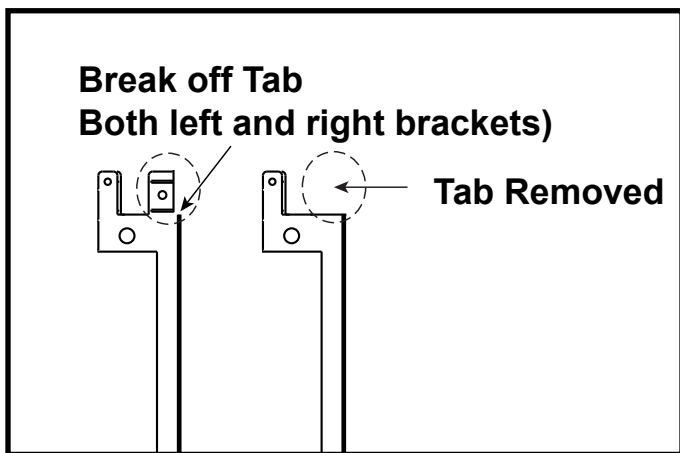
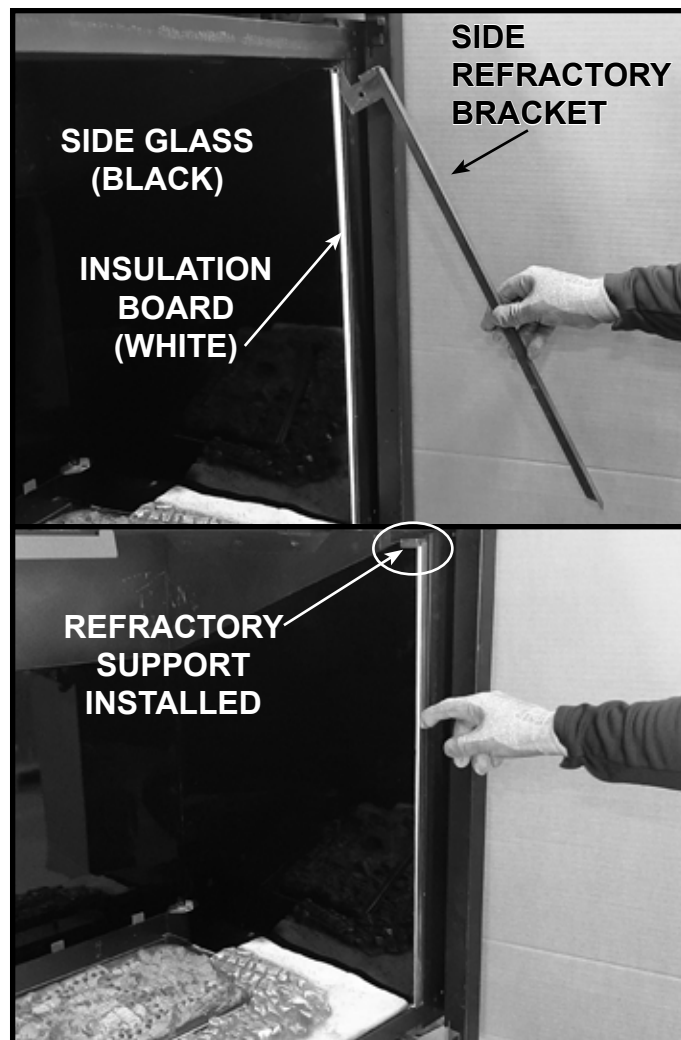

Figure 9 Break Off Tab (GL-36M/GL-42M Only)
Figure 10 Install Side Refractory Bracket with Side Insulation Board and Side Glass Panel
10. Install side glass panel in front of insulation board as shown in Figure 10.
11. Bend the side refractory bracket tab down as shown in Figure 11, labeled Bend 1. Place the side refractory bracket into position. Put the top in first and orient it as shown in Figure 10.
12. Install side refractory bracket between the insulation board and the side of the firebox. Position the side refractory bracket, insulation board and side glass panel upright against the inside wall of the firebox as shown in Figure 10. Secure side refractory bracket with one self-tapping screw as shown in Figure 11. Bend side refractory bracket tab over glass panel as shown in Figure 12, labeled Bend 2. Refractory bracket is shown installed, with the tab bent correctly, in Figure 13.
11. Bend the side refractory bracket tab to break it off and discard. See Figure 9. Place the side refractory bracket into position. Put the top in first and orient it as shown in Figure 10.
12. Install side refractory bracket between the insulation board and the side of the firebox. Position the side refractory bracket, insulation board and side glass panel upright against the inside wall of the firebox as shown in Figure 10.